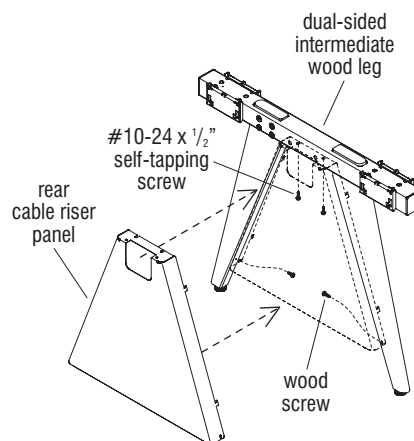

Figure 8 - Dual-Sided Benching - Wood Adder Leg with Cable Riser
2. Nest the rear cable riser panel between the two uprights of the dual-sided intermediate wood leg as illustrated in Figure 8.
3. Secure the rear cable riser panel to the underside of the dual-sided wood rail using two #10-24 x 1/2" self-tapping screws. Secure the riser panel to each leg using a wood leg screw (Figure 8).